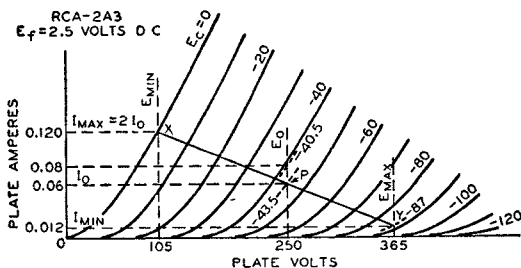

Fig. 19
Calculation of the **power output of a triode** used as a class A amplifier with either an output transformer or a choke having low dc resistance can be made without serious error from the plate family of curves by assuming a resistance load. The proper plate current, grid bias, optimum load resistance, and the per cent second-harmonic distortion can also be determined. The calculations are made graphically and are illustrated in Fig. 19 for given conditions. The procedure is as follows: (1) Locate the zero-signal bias point P by determining the zero-signal bias  $E_{c0}$  from the formula:
**Example:** Determine the load resistance, power output, and distortion of a triode having an amplification factor of 4.2, a plate-dissipation rating of 15 watts, and plate characteristics curves as shown in Fig. 19. The tube is to be operated at 250 volts on the plate.